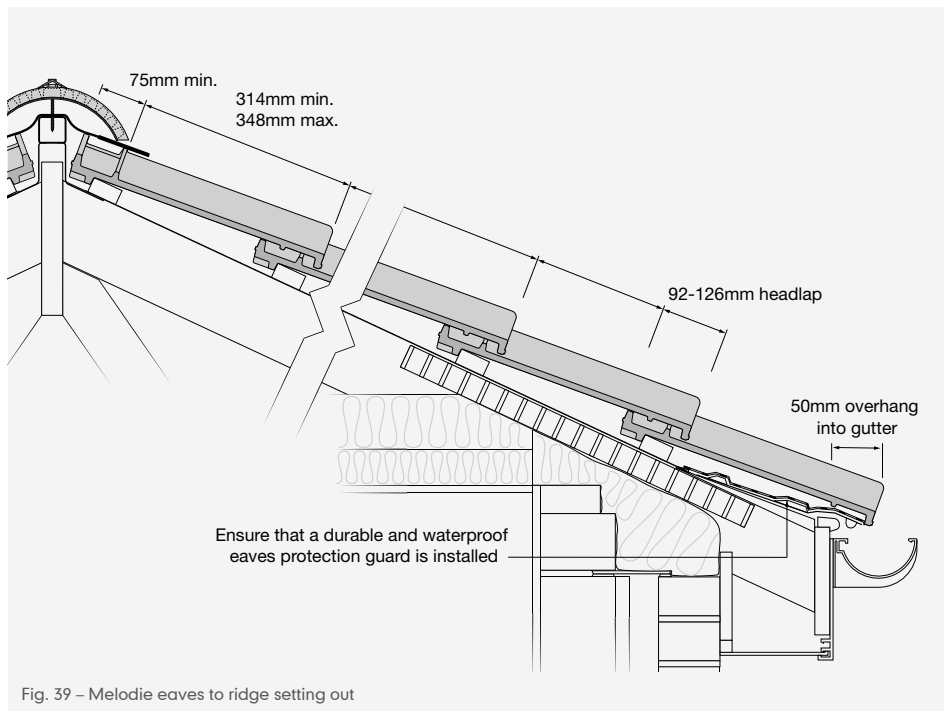

Fig. 39 – Melodie eaves to ridge setting out
- 1 The tile battens should be set out at a maximum spacing of 348mm to ensure a minimum headlap of 92mm. Melodie tiles have a built in head lock adjustment which allows the gauge to be reduced within the range 348-314mm (Fig. 39).